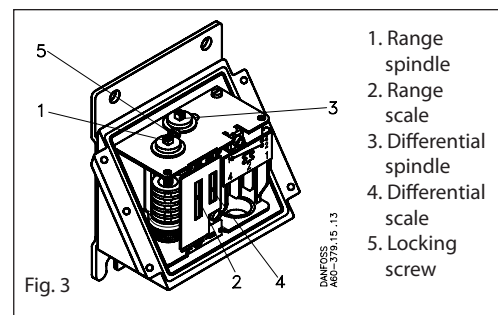

Fig. 3
When the thermostat cover is removed, and the locking screw (5, fig. 3) is loosened, the range can be set with the spindle (1) while at the same time the scale (2) is being read.